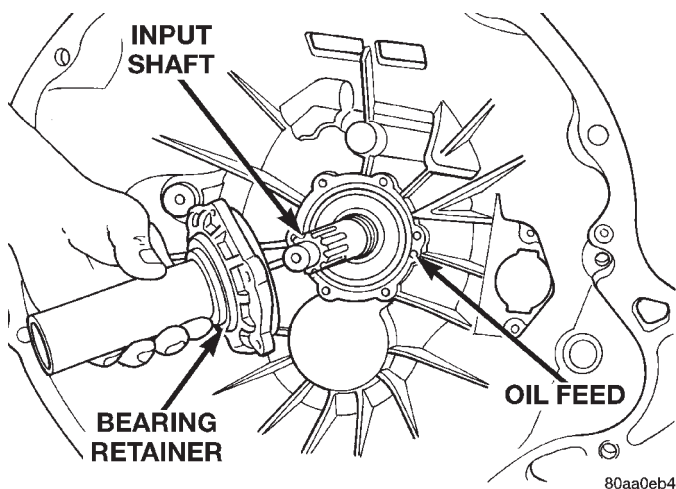

Fig. 132 Installing Input Shaft Bearing Retainer
(20) Align and install front bearing retainer over input shaft and onto housing mounting surface (Fig. 132). Although retainer is one-way fit on housing, be sure bolt holes are aligned before seating retainer. Be sure that no sealer gets into the oil feed hole in the transmission case or bearing retainer.